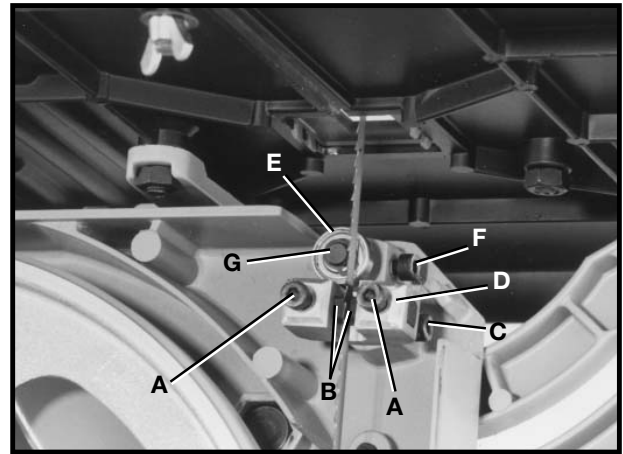

Fig. 24
1. Loosen two screws (A) Fig. 24, and move guides (B) as close as possible to the sides of the blade, being careful not to pinch the blade. Then tighten the two screws (A).
2. The front edge of guide blocks (B) Fig. 24, should be adjusted so they are just behind the “gullets” of the blade teeth by loosening screw (C), and moving assembly (D) in or out as necessary. Then tighten screw (C).
3. The lower blade support bearing (E) Fig. 24, should be adjusted to support the rear of the blade during the cutting operation and also prevent the blade from being pushed too far to the rear which could damage the blade. The support bearing (E) Fig. 24, should be set about 1/32 in. behind the blade by loosening screw (F) Fig. 24, and moving shaft (G) in or out. Then tighten screw (F).
4. The lower blade support bearing (E) Fig. 24, should also be adjusted so the back of the blade overlaps the outside diameter of the ball bearing by approximately 1/8 in. The blade support bearing (E) is set on an eccentric shaft. To change position of bearing (E), loosen screw (F) Fig. 24, and rotate shaft (G) Figs. 24 and 25, until the blade properly overlaps the support bearing. Then tighten screw (F) Fig. 24.